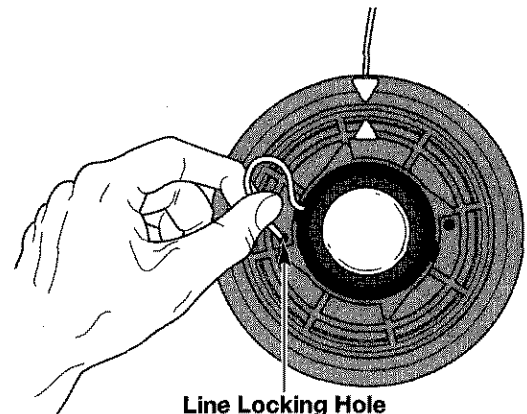

Fig. 21
5. Insert the line into the locking hole (Fig. 21). Do not push the line more than 1/2 inch (12.7 mm) into the line locking hole. When inserted correctly the line will form a small loop (Fig. 21).